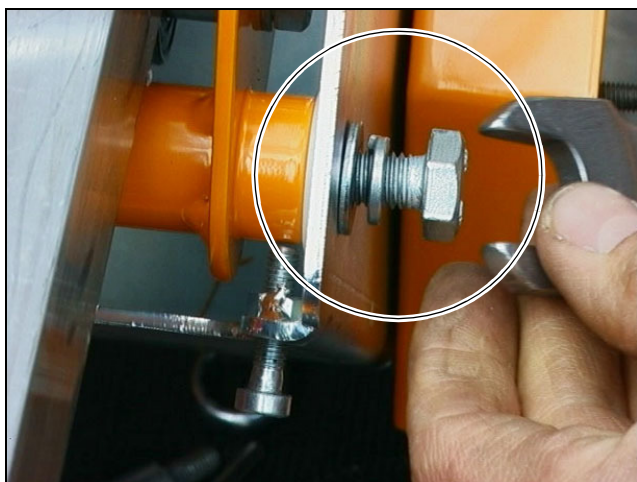

Fig. 5.14 M10 screw on the depth swivel arm tightened
7. Readjust the M 10 screw on the depth swivel bearing (Fig. 5.14)!